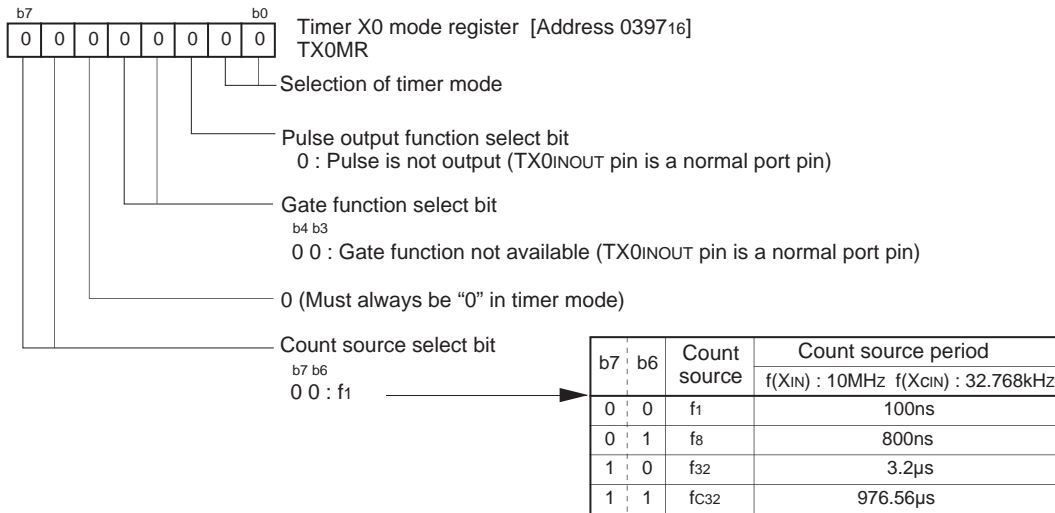

**Figure 3.1.2. Connection diagram of long-period timers**
**Overview** In this process, Timer X0 and Timer X1 are connected to make a 16-bit timer with a 16-bit prescaler. Figure 3.1.1 shows the operation timing, Figure 3.1.2 shows the connection diagram, and Figures 3.1.3 and 3.1.4 show the set-up procedure.